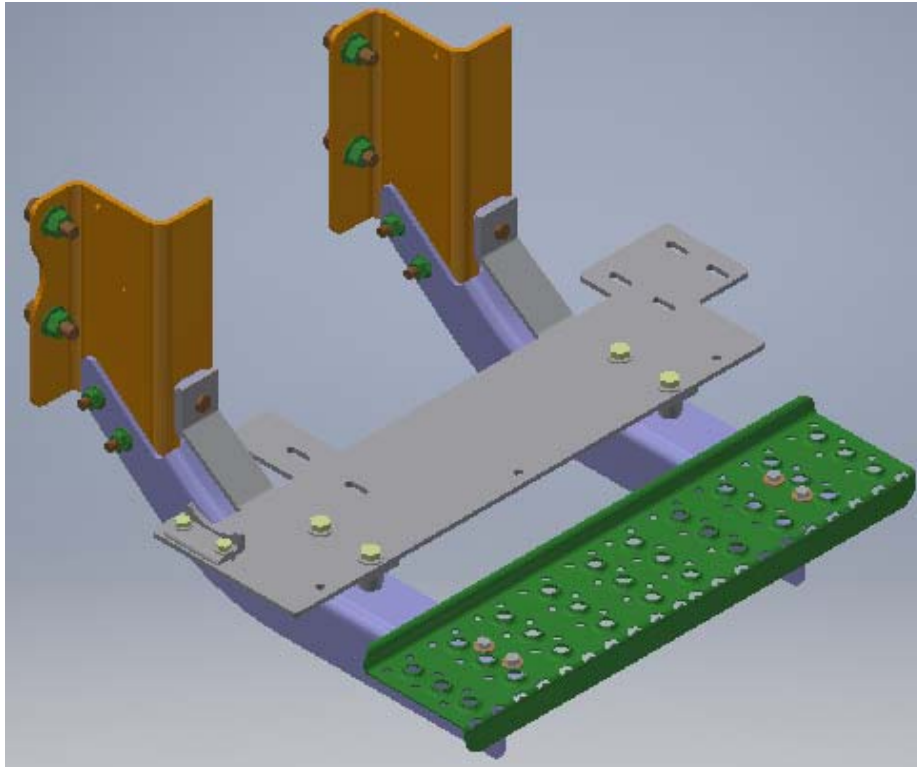

Figure 4: Pump Support Bracket
6. Install the Pump Support (R-20452) Bracket using the supplied 3/8" x 1 1/4" bolts and associated hardware. (Figure 4)